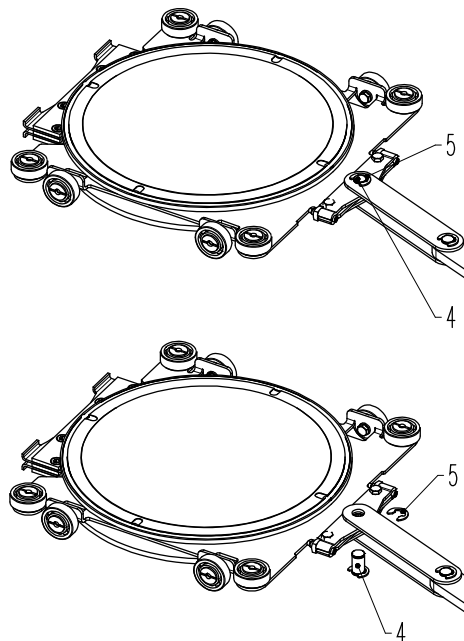

Figure 6-3
6. Remove locking ring (5) according to «Figure 6-3» on page 15.
7. Withdraw bolt (4) by pulling it downwards according to «Figure 6-3» on page 15.
10. Mount bolt (4) according to «Figure 6-3» on page 15.
11. Mount locking ring (5) according to «Figure 6-3» on page 15.